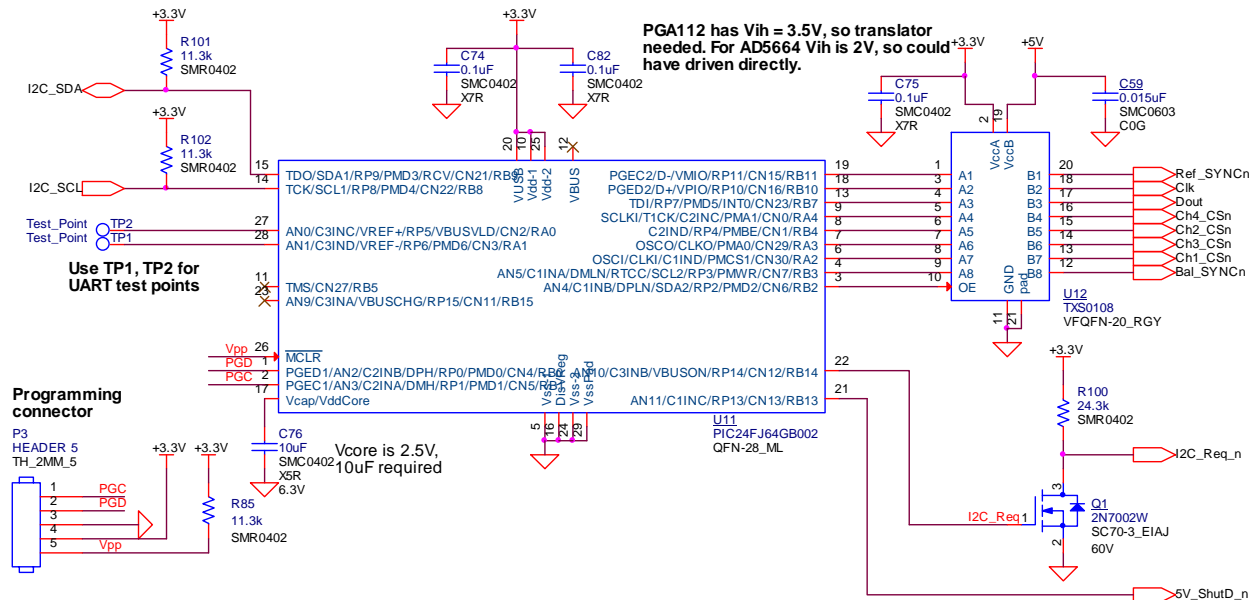

Figure 23. Analog Board Microprocessor Controls Gain and Balance
The AE Recorder design included an I2C bus shared among all boards to configure the Analog and Power / Interface boards. A Microchip PIC24FJ64GB002 microcontroller (13) in a small, 28-pin QFN package accepts the I2C commands, qualifies them with the board address, and then controls the programmable gain and digital-to-analog converters using an SPI bus. A TXS0108 level translator converts the 3.3V microcontroller signal output to the 5V signal levels needed for the PGA112 programmable amplifier, as shown in Figure 23. Level translation is not needed for the AD5664 DAC, but is applied to use the same SPI data and clock signals for all. The 2-mm pitch, 5-pin programming connector has sufficient inter-pin spacing to be readily implemented for the test fixture. The 0.05" pitch programming connector typically used is too closely spaced.